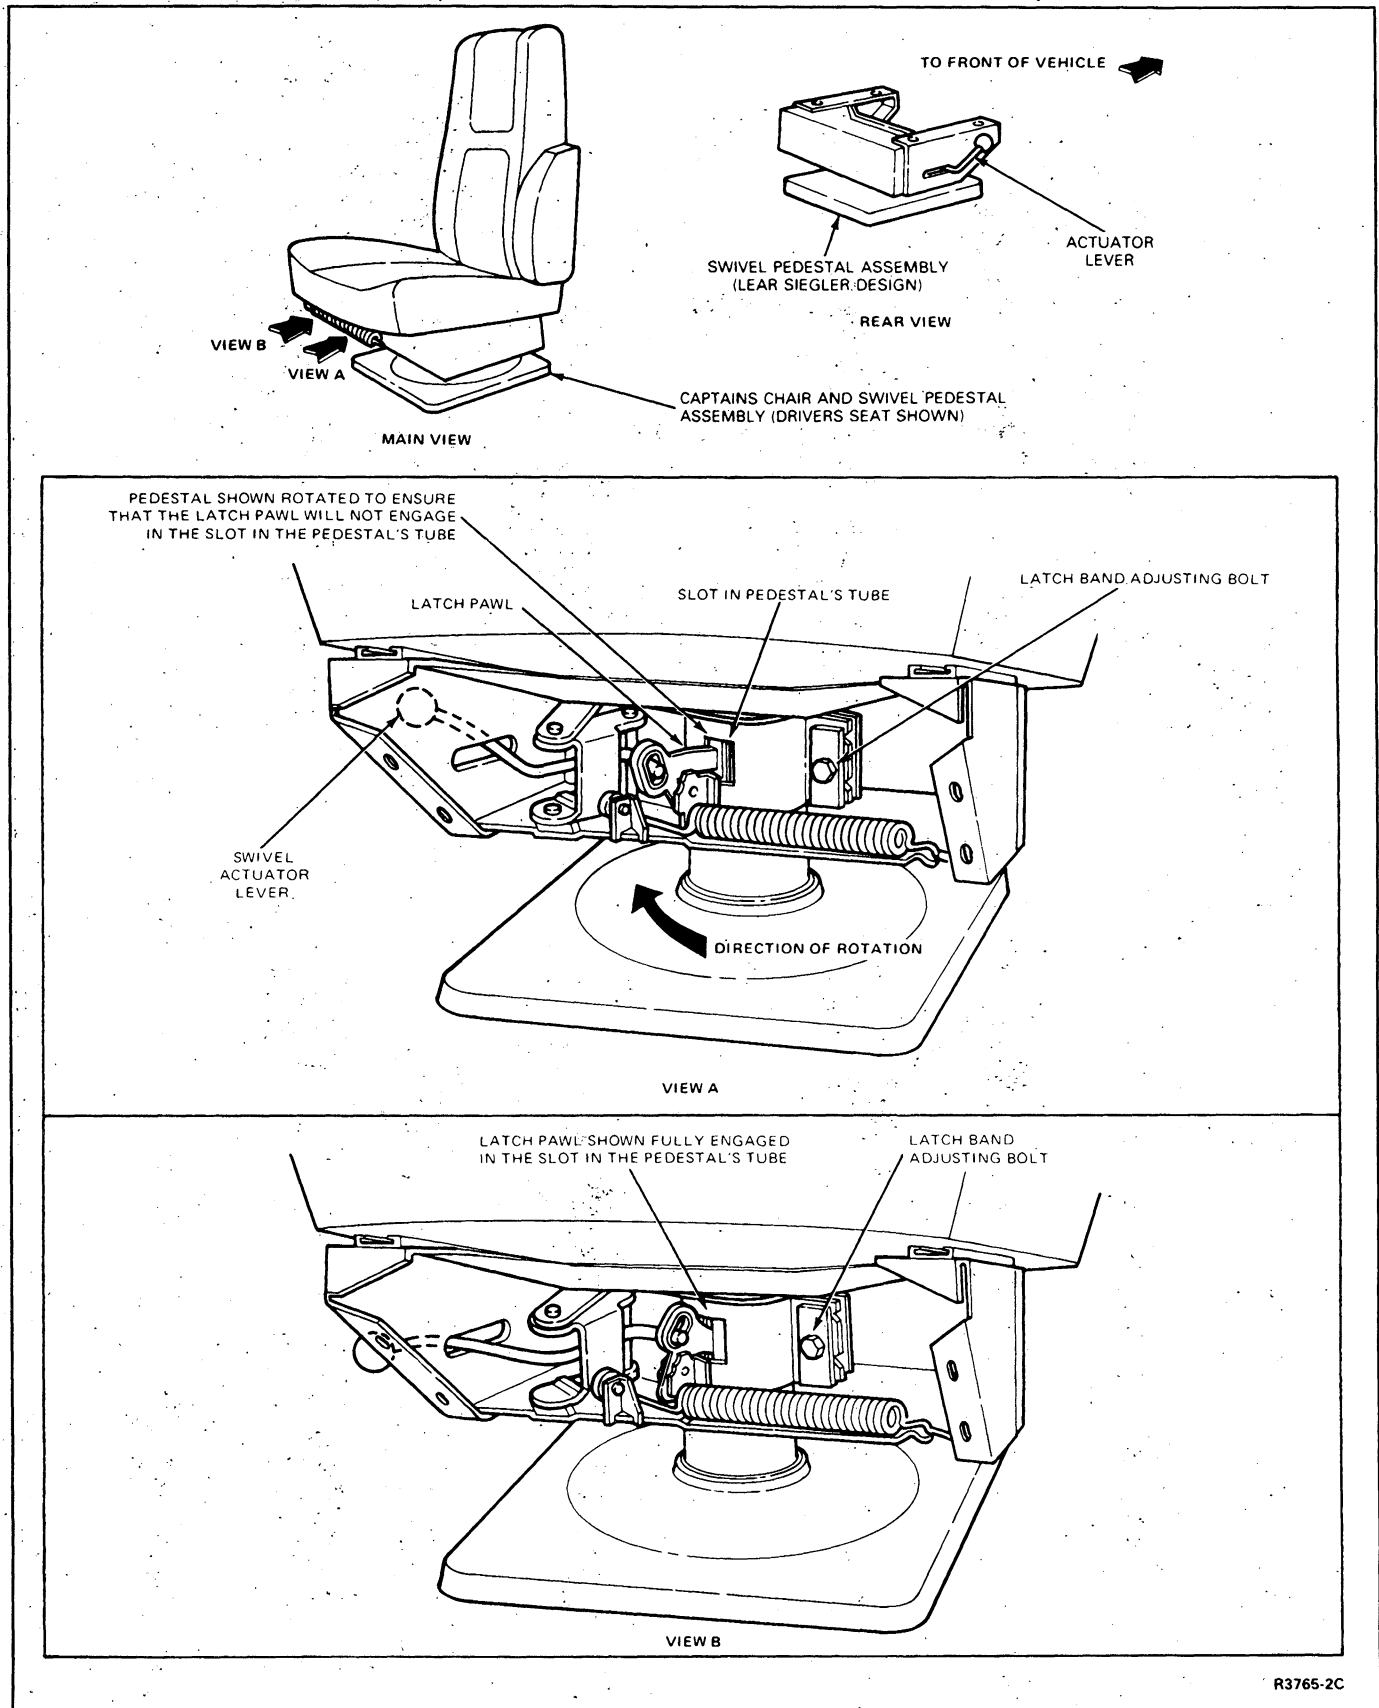

FIG. 2 Swivel Pedestal Assembly Latch Band Adjustment—E-150—E-350 and Club Wagon
- Slide the swivel pedestal's actuator lever rearward. Rotate the seat and pedestal sufficiently to ensure that the latch pawl will not engage the pedestal tube slot when the actuator lever is released. Then, release the lever (Fig. 2, View A).
2. Tighten the latch band adjusting bolt until all play is removed from support-to-pedestal mount. A good indicator is that the latch pawl will not engage in the slot in the tube when the swivel pedestal is rotated to the forward facing position (Fig. 2, View A).
4. Slowly loosen the latch band adjusting bolt until the latch pawl "snaps" into the slot in the tube (Fig. 2, View B). Check support-to-pedestal mount to ensure that no play is present.
5. Actuate the swivel pedestal's release lever and rotate the seat and pedestal assembly. Then, release the actuator lever and rotate the seat and pedestal assembly to the forward facing position. The latch pawl should "snap" into the slot. Check the latch pawl for full engagement in the slot. Refer to Fig. 2, View B.